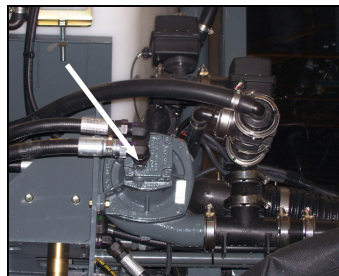

FIG. 63-4
**SOLUTION PUMP**— The solution pump (fig. 63-4) is a centrifugal type hydraulic pump that is controlled by the Pulse Width Modulated Valve (fig. 63-5) and the Raven console (fig. 63-6). The pump draws the solution out of the tank at a rate determined during the calibration of the Raven console. It dispenses it through the many valves and hoses that make up the spray system. The pump also dispenses fluids through the agitation system and the rinse systems.